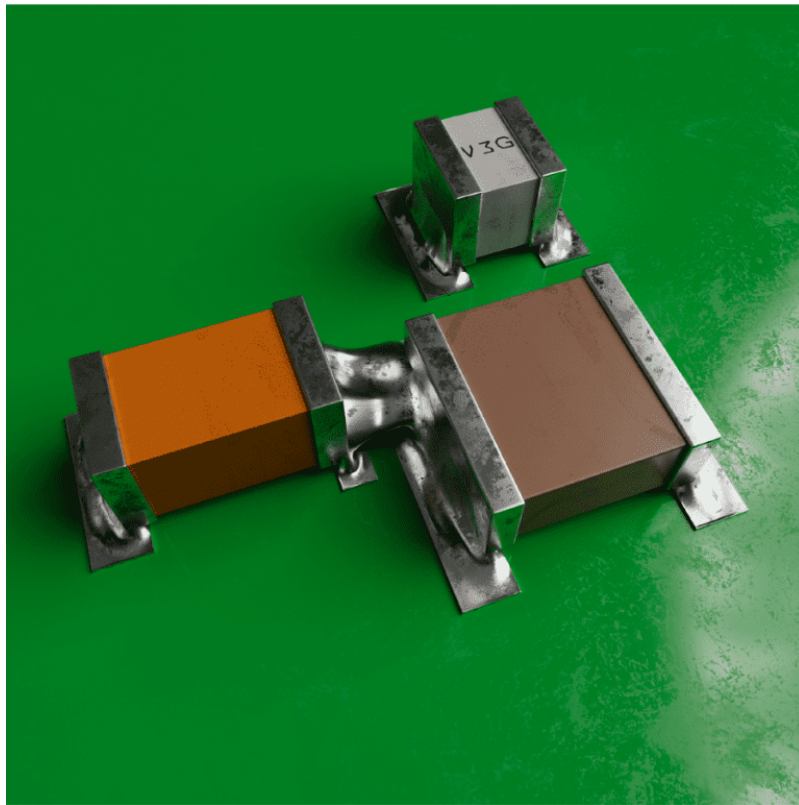

Figure 7. Solder bridging can occur with very dense placement. (Source: IPC-A-610)
- Short circuits (solder bridging, solder balling, etc.) **(Figure 7)**.